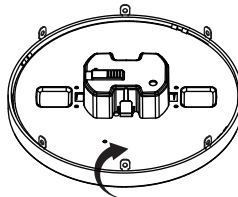

fig. 2
2. Secure the trim by folding the tabs over the downlight's existing trim. (fig. 2)